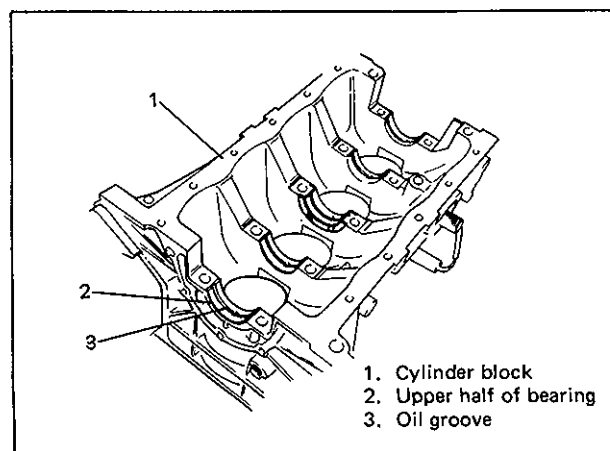

Fig. 6A-146 Upper Half of Bearing Installation
- On each main bearing cap, arrow mark and number are embossed as indicated in Fig. 6A-147.